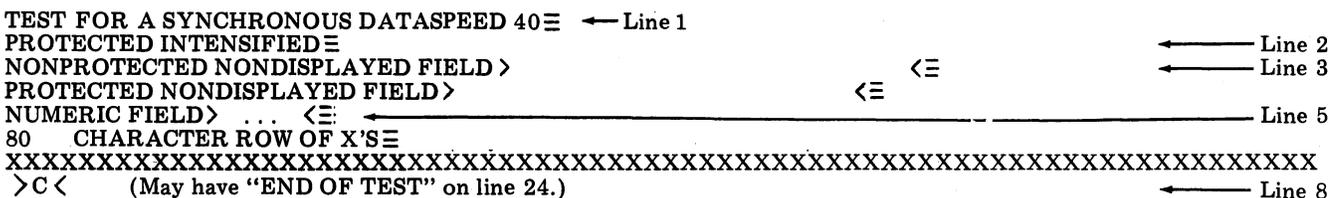

Fig. 7—SYNC 40 Test Message
2.19 Check for correctness of display and station options (for references to lines, see Fig. 7; the relation of OPT numbers and options is given in Section 582-200-205):
Line 1 is copied as shown (Fig. 7). Line 2, the word PROTECTED begins in the fifth character position and is followed by the word INTENSIFIED which is brighter than normal for Option 403a or 403c; or blinks for Option 403b. Lines 3 through 8 are as shown in Fig. 7; the cursor must be positioned over "C" on line 8.